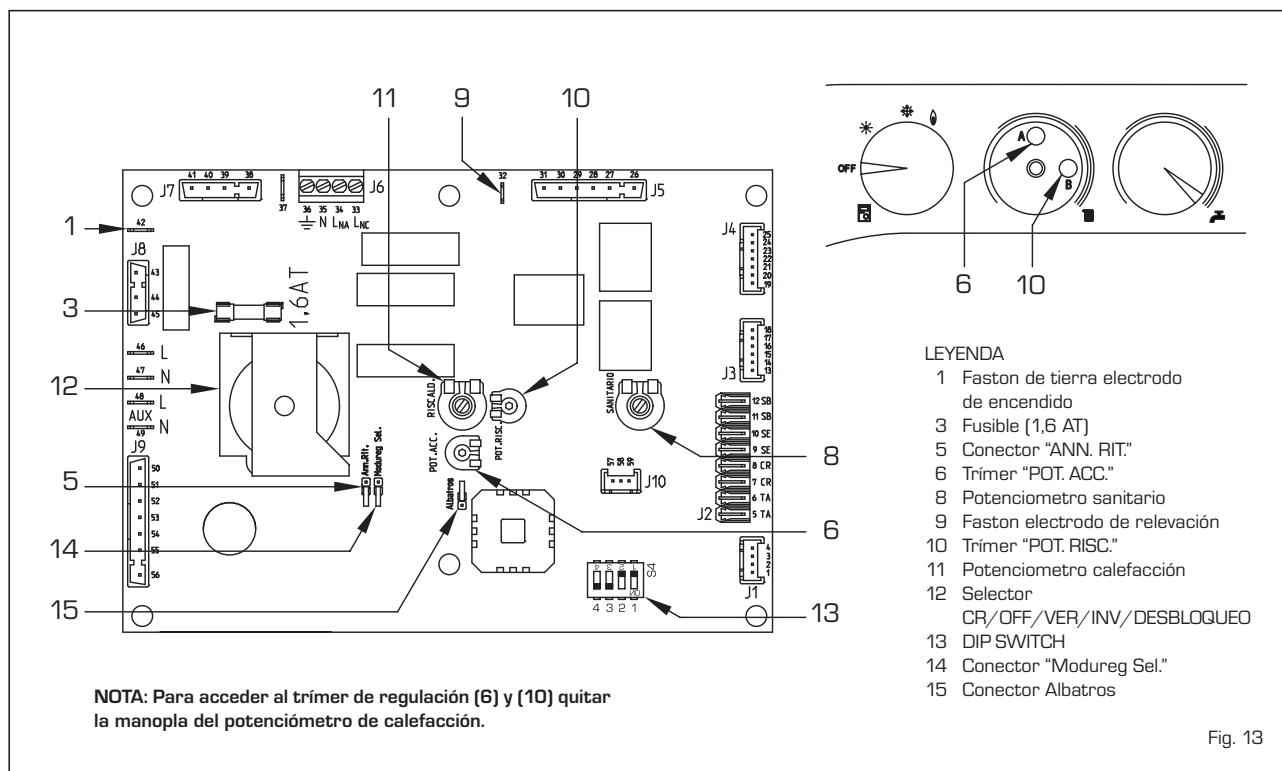

Fig. 13
- **Trimmer "POT. RISC."** (10 fig. 13)
- **Trimmer "POT. ACC."** (6 fig. 13)
- **Conector "ANN. RIT."** (5 fig. 13)
- **DIP SWITCH** (13 fig. 13)
- **Conector "Modureg Sel."** (14 fig. 13)
- Conector "Albatros" (15 fig. 13)